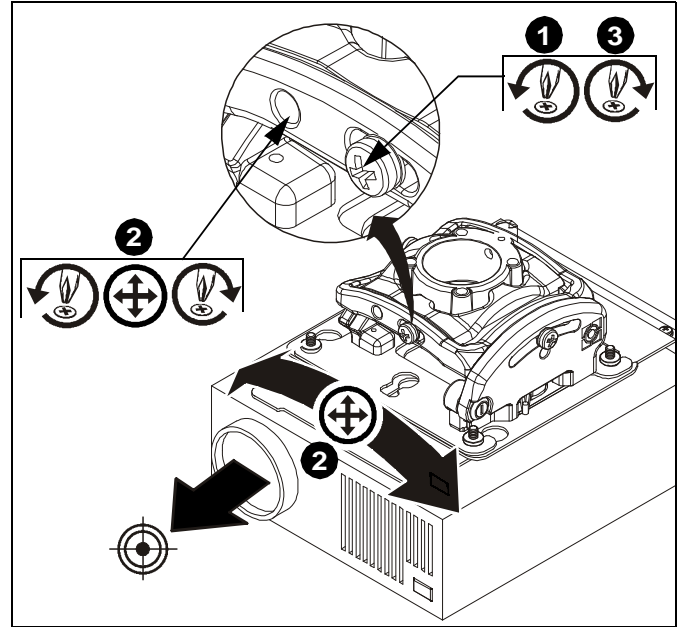

Figure 11
1. Loosen ROLL adjustment locking screw using a #2 Phillips screwdriver. (See Figure 11)